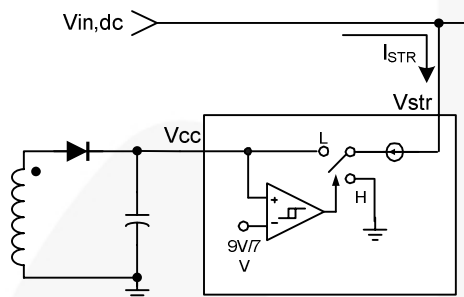

Figure 15. Internal Start-up Circuit
**1. Start-up:** At start-up, the internal high-voltage current source supplies the internal bias and charges the external  $V_{CC}$  capacitor, as shown in Figure 15. When  $V_{CC}$  reaches 9V, the device starts switching and the internal high-voltage current source stops charging the capacitor. The device is in normal operation provided  $V_{CC}$  does not drop below 7V. After start-up, the bias is supplied from the auxiliary transformer winding.